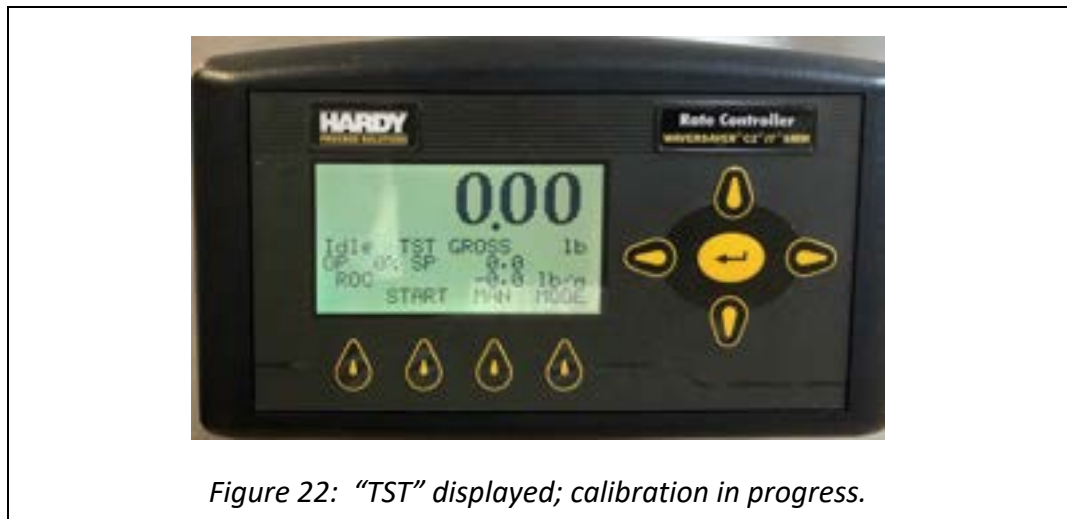

Figure 22: “TST” displayed; calibration in progress.
9. Press the **EXIT** function key 3 times to return to the Home screen. The display will show “TST”; this indicates that the calibration is in progress (see Figure 22). The system is inoperative while calibration is in progress.